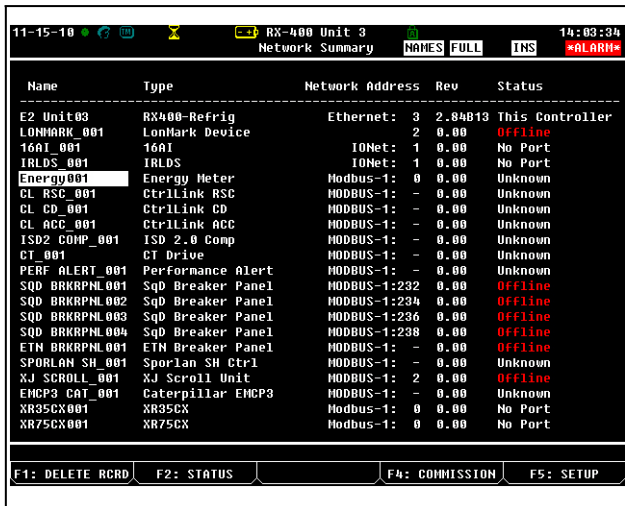

Figure 6-4 - Network Summary Screen
9. When finished, press  to return to the Network Setup menu, then press  - **Network Summary** (Figure 6-4). Locate the Energy Meters you set up, and look at each device's status in the **Status** field. You will see one of the following messages: